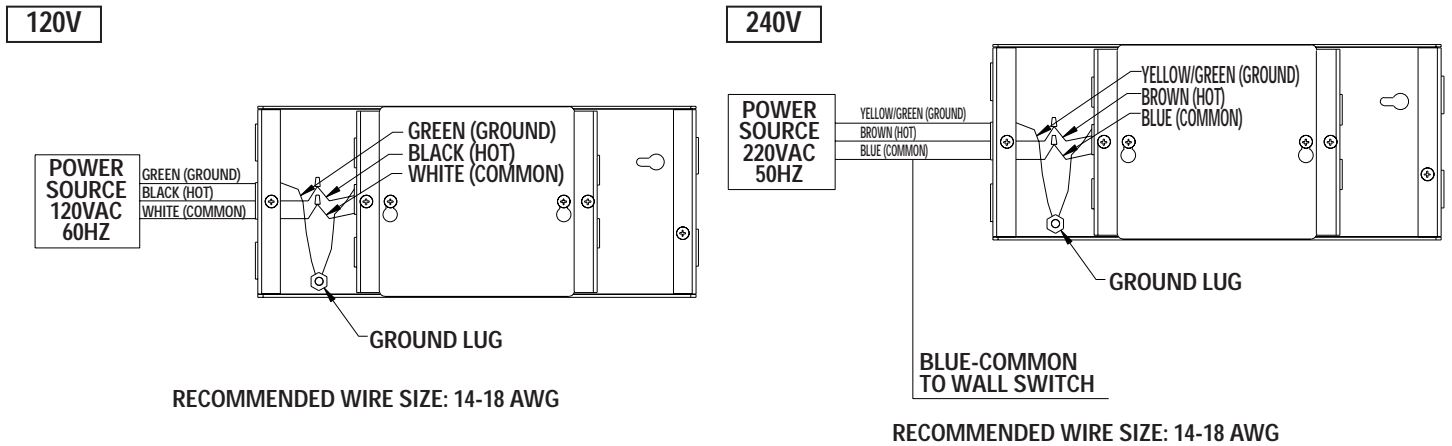

FIGURE 3
2. Connect the building ground wire to the ground lug on the metal housing. Refer to Figure 3.